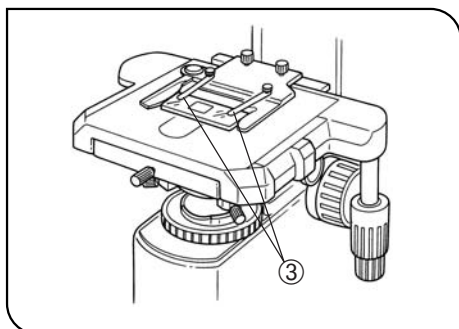

Fig. 16
Adsorption of immersion oil can cause the specimen to drift. In such cases, it is recommended to use the optional BH2-SCB-3 specimen clip ③ for oil immersion objectives. (Fig. 16)